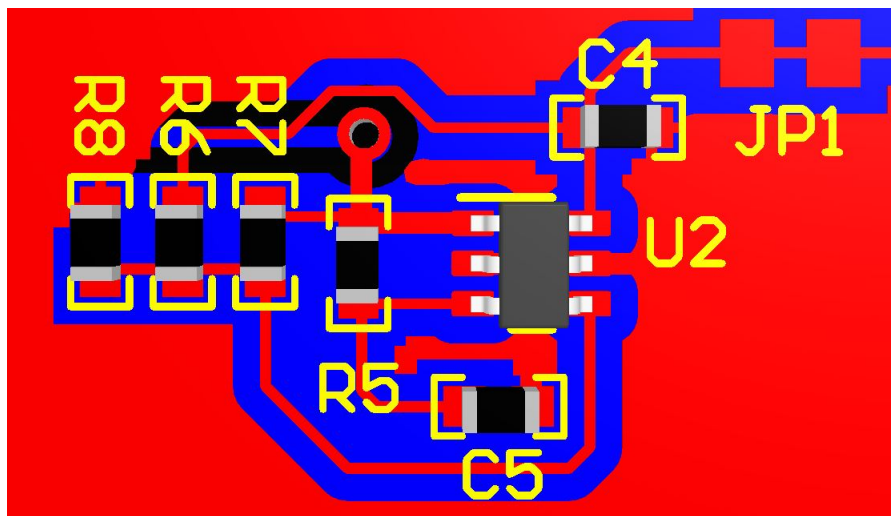

图 73. Oscillator Circuit Layout Example
- To minimize supply noise, place a decoupling capacitor (0.1- μF ceramic, surface-mount capacitor) as close as possible to V_S as shown in 图 73.